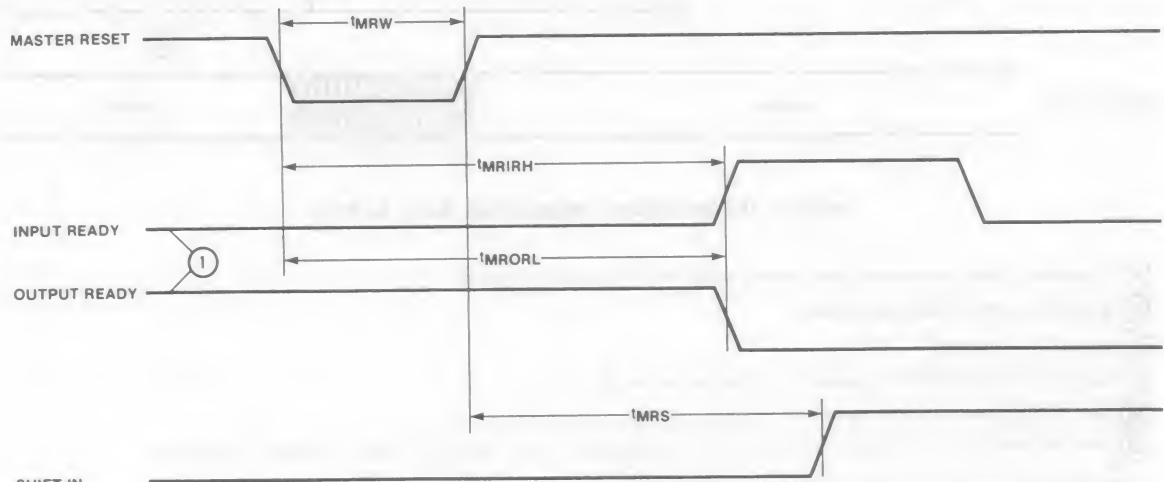

Figure 10. Master Reset Timing
After power up the Master Reset is pulsed low (Fig. 10) to prepare the FIFO to accept data in the first location. When Input Ready (IR) is HIGH the location is ready to accept data from the D_x inputs. Data then present at the data inputs is entered into the first location when the Shift In (SI) is brought HIGH. A SI HIGH signal causes the IR to go LOW. Data remains at the first location until SI is brought LOW. When SI is brought LOW and the FIFO is not full, IR will go HIGH, indicating that more room is available. Simultaneously, data will propagate to the second location and continue shifting until it reaches the output stage or a full location. If the memory is full, IR will remain LOW.